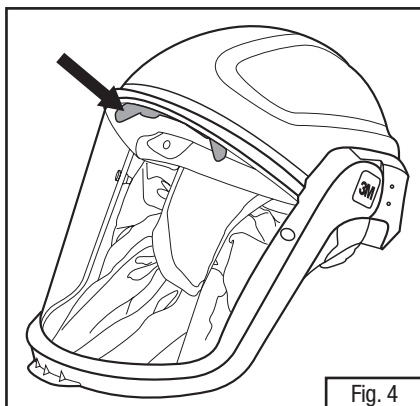

Fig. 4
- If needed, adjust the airflow inside the headgear for wearing comfort. To adjust, raise the visor into the up (open) position. Locate the blue air deflector in the front of the headgear and rotate. Fig. 4 shows where the air deflector is located. There are two positions. Adjust fully open for more airflow across the face or partially closed to re-direct a portion of the air towards the visor. After adjusting the air deflector, lower the visor back into the down position.